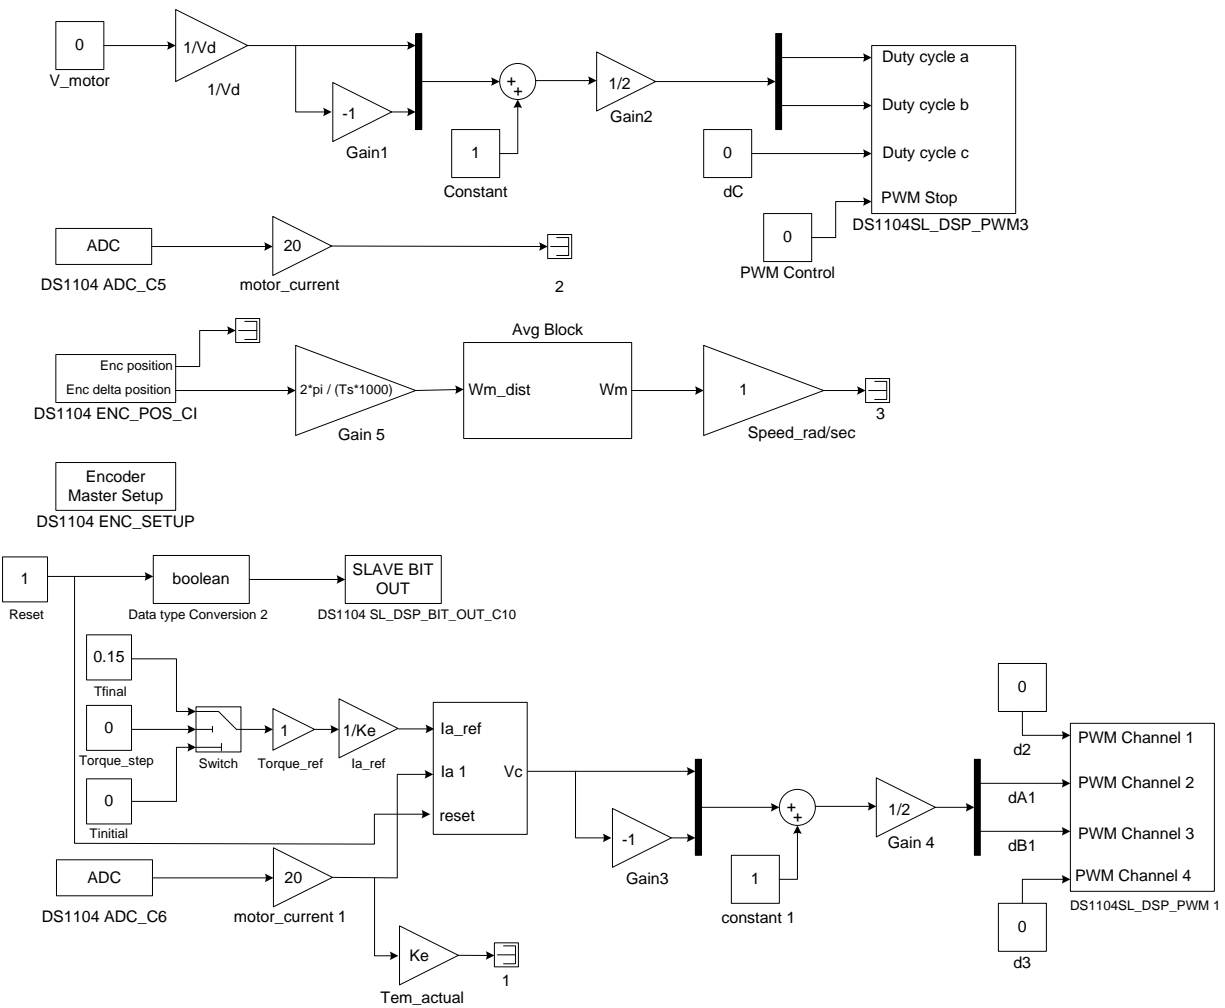
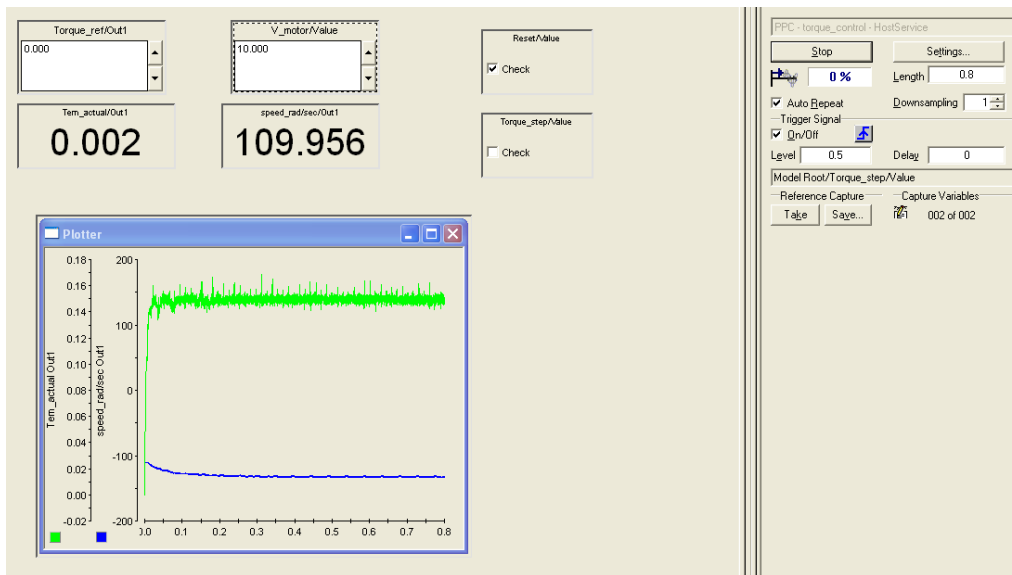
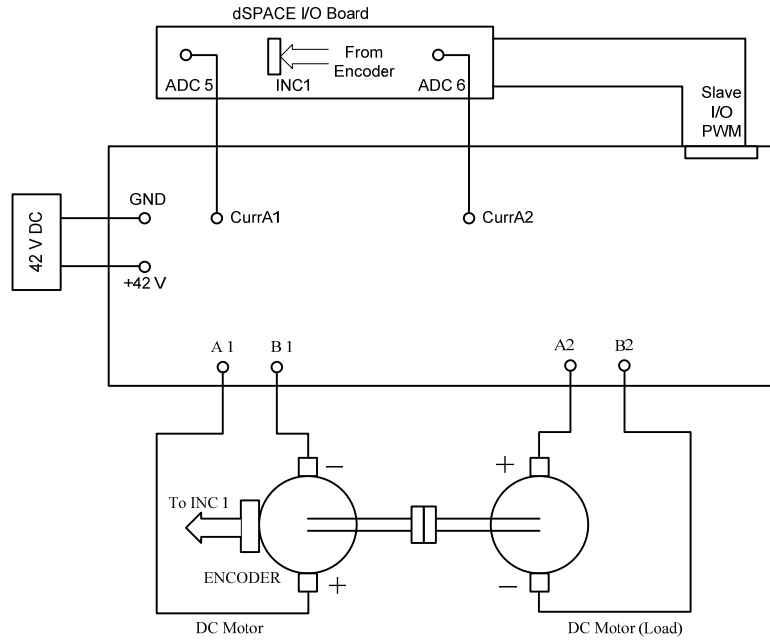
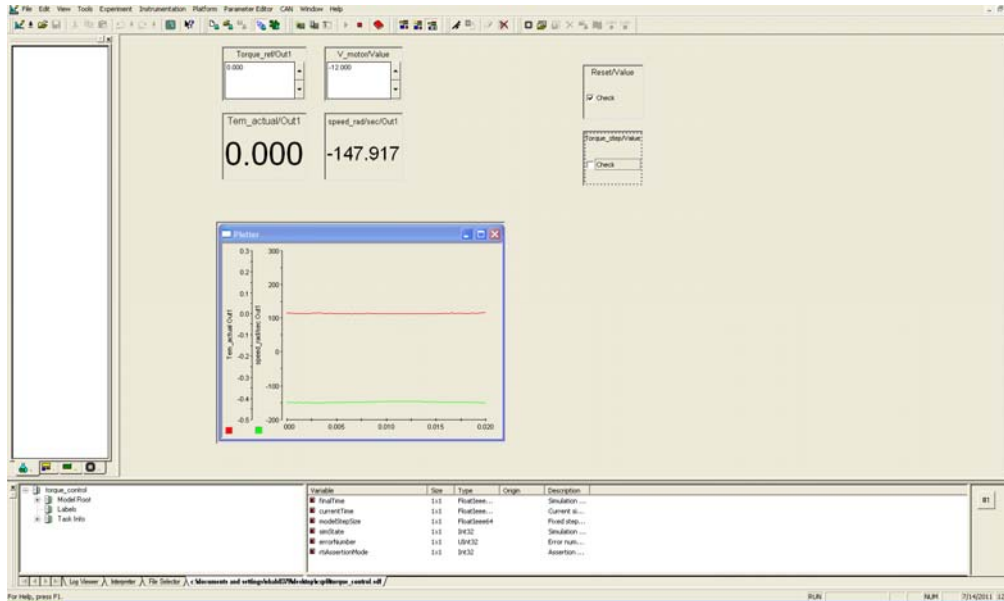

Figure 6.3: Simulink model for constant torque on DC motor
Figure 6.4: dSpace ControlDesk layout for constant torque on DC motor
Figure 6.5: Connections for constant torque on DC motor
Figure 6.7: Modeling A Crane Load
The Simulink model for constant torque on DC motor is shown in Fig. 6.3. Open the file ‘**torque_control.mdl**’. Assign suitable values to the PI current controller that was obtained from the previous experiment-5. Enter the value of $V_d = 42$ and $T_s = 1e-4$ at command prompt. Build the model (Ctrl+B) and start dSpace ControlDesk. Open the (.sdf file) and the layout file ‘‘**torque_control.lay**’’ setup the capture setting window (View→Controlbars→Capture setting window) as shown in Fig 6.4 and the connections are shown in Fig. 6.5.
1. Set up the experiment as shown in Fig. 6.5. The response of torque and speed can be seen in Fig. 6.7.
1. Setup the experiment as shown in Fig. 6.5.